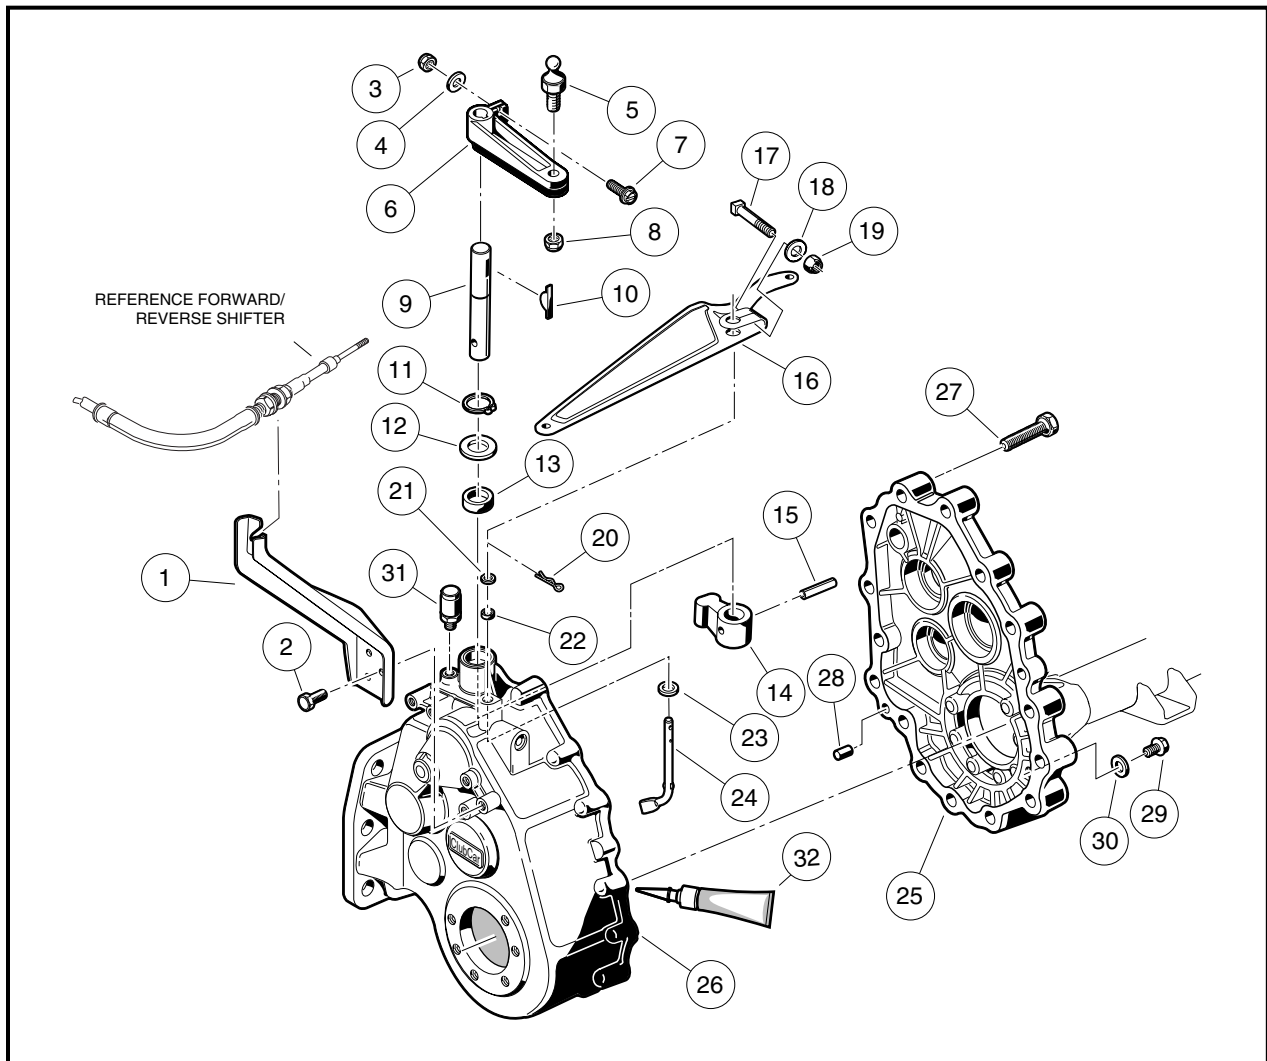

Figure 5-3 Transaxle Gear Casing and Brackets
3. Remove the fifteen bolts (27) that hold the transaxle housing together (**Figure 5-3, Page 5-3**).
- 11.1. Loosen nut (3), washer (4) and bolt (7) on transaxle shifter lever and remove lever from shaft (**Figure 5-3, Page 5-3**).
- 11.5. Use a seal puller to remove the shifter shaft oil seal (13).
12. Remove the breather (31) (**Figure 5-3, Page 5-3**).
- 13.3. Use a small chisel or similar pointed instrument to pry the pivot arm oil seal (22) out of the case (**Figure 5-3, Page 5-3**). **See also Figure 5-9, Page 5-6.**